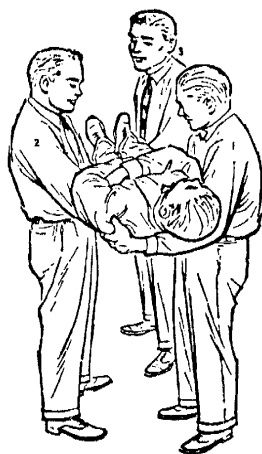

Fig. 28—Ready to Carry
- Step 6. At the next signal, all carriers stand erect with the victim. (See Fig. 28.)